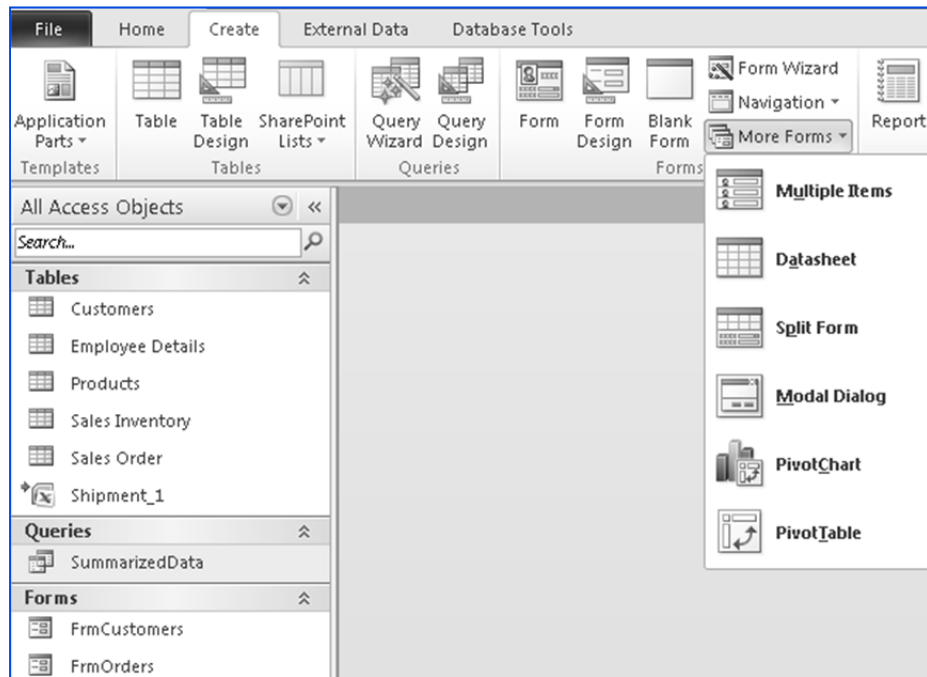

Fig. 2.3.16. Select the Pivot Table option
1. Select the query *SummarizedData* under *All Access Objects* -> *Queries* tab. From the *Create ribbon* -> *Forms tab* ->, click the dropdown arrow near *More Forms* and select *Pivot Table* from the list, as indicated in Fig. 2.3.16.